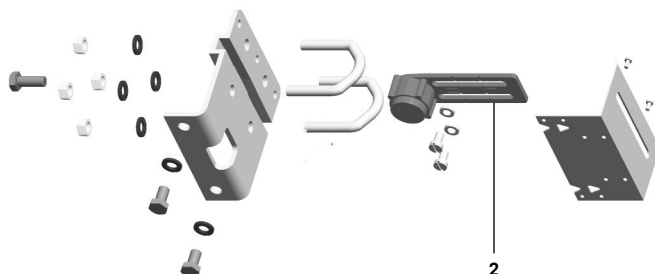
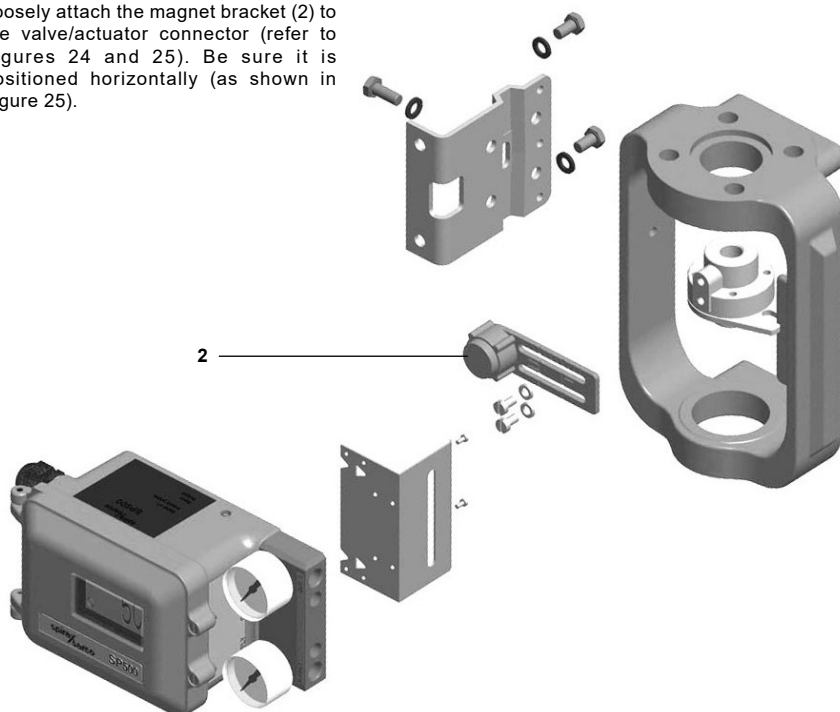

Fig. 24 Pillar mounting kit for a linear actuator
Fig. 25 Yoke mounting assembly for a linear actuator
- 5.2.1** Loosely attach the magnet bracket (2) to the valve/actuator connector (refer to Figures 24 and 25). Be sure it is positioned horizontally (as shown in Figure 25).